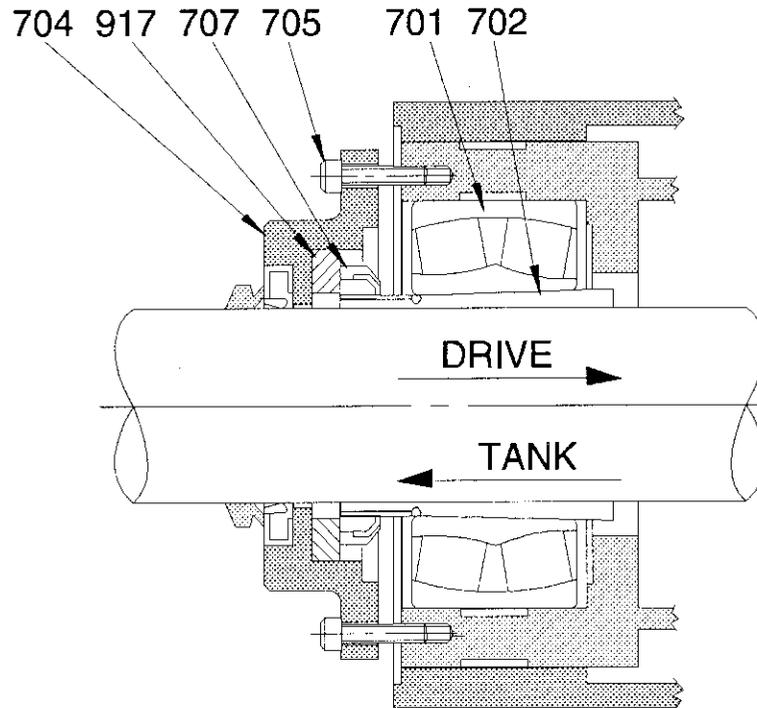

Figure 30: Adapter Sleeve Release Ring
4. Unbolt and separate the stuffing box/flange from the housing (500). Remove the stuffing box along with all related components completely from the agitator.
5. Slide the V-Ring (706) along the shaft toward the seal. Unfasten the grease plate (704) and the inboard grease seal (703) from the spool (800) and move toward the seal end of the housing.
6. Back off the inboard adapter sleeve locknut (707), approximately 3/16", by lifting the lockwasher (708) tang and turning the locknut counter clockwise.
7. Insert the adapter sleeve release ring (917), a split ring service tool, into the grease plate and reassemble to the spool using four of the fastening capscrews (705) equally spaced. Ensure that the thread engagement is at least 1-1/2 to 2 times the capscrew diameter, *Figure 30, page 62*
8. Evenly tighten the grease plate capscrews until the taper lock on the adapter sleeve is released. Although the adapter sleeve will likely be replaced, care should be taken to avoid damage to the surrounding parts. Remove the inboard bearing and adapter sleeve from the agitator housing (500).
9. Install the jack screw supports (930) or a shaft steady apparatus on all agitators with shafts 4-1/2" diameter and greater. Blocking the shaft from movement is necessary while servicing the bearings. See "*Shaft Steady Installation,*" page 50.
10. Unfasten and remove the retaining plate (604) and outboard grease seal (603). Remove the bearing spacer(602) and shaft locknut (607) and lockwasher (608) by turning the nut counter clockwise. Remove the outboard bearing from the housing.